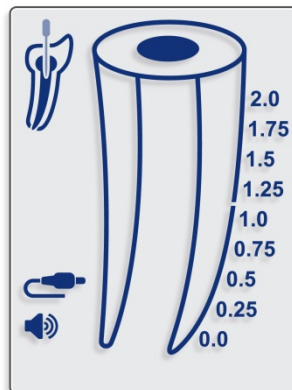

Fig. 4
- 7.4.7. Before connecting the measurement cable with attached lip clip and file clip to the patient, plug measurement cable into the device receptacle and make sure that the cable icon appears on the display (Fig. 4).